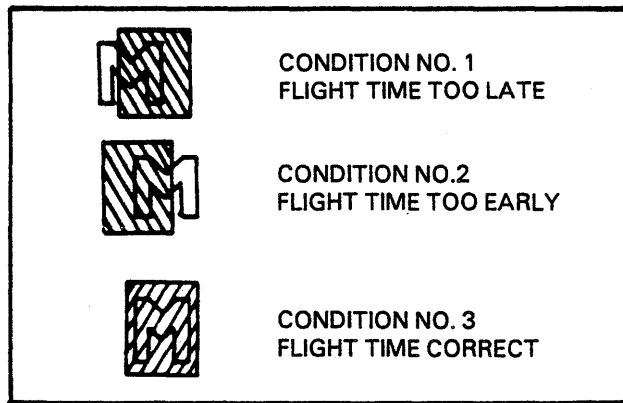

FIGURE 5-5. FLIGHT TIME CHECK
### Procedure for Upper Actuators (See Figures 5-5 and 5-6)
**Procedure for Lower Actuators (See Figures 5-5 and 5-6)**